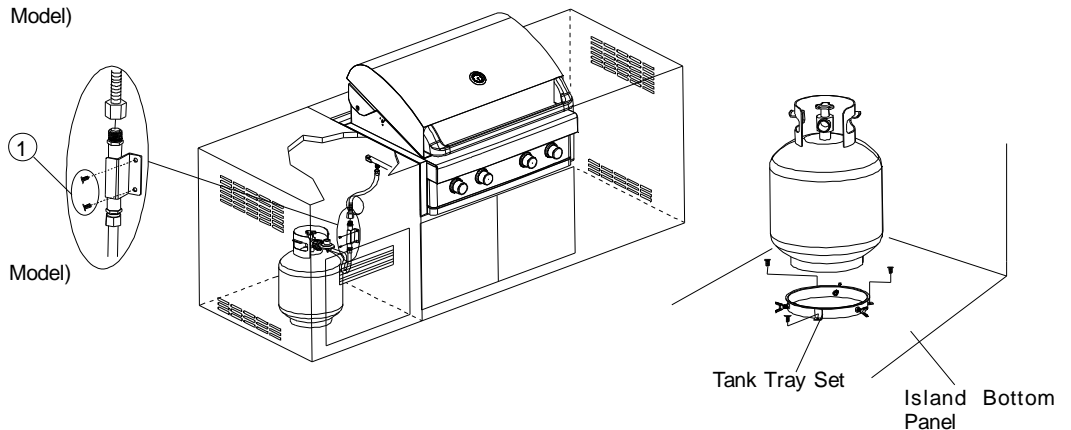

Fig. 3
- Install the Tank Tray Set onto the Island Bottom Panel. Secure the Tank Tray set by installing 3 Pan Head Screws 3/16"x3/8" as shown in Fig. 3. Place the LP Gas Tank into the Tank Tray. Make sure the Tank Valve faces the right corner of the cabinet. Tighten the Wing Bolt to secure the LP Gas Tank.